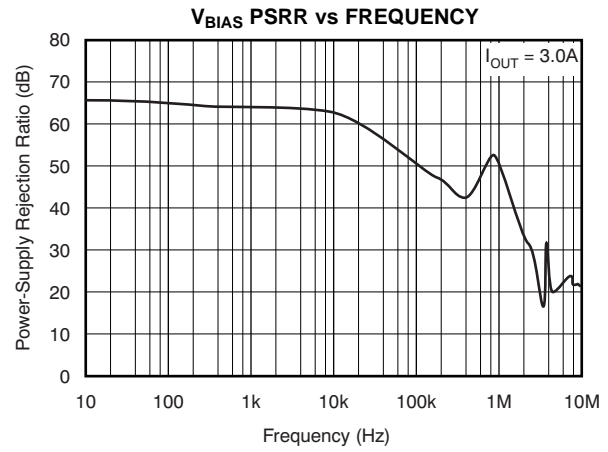
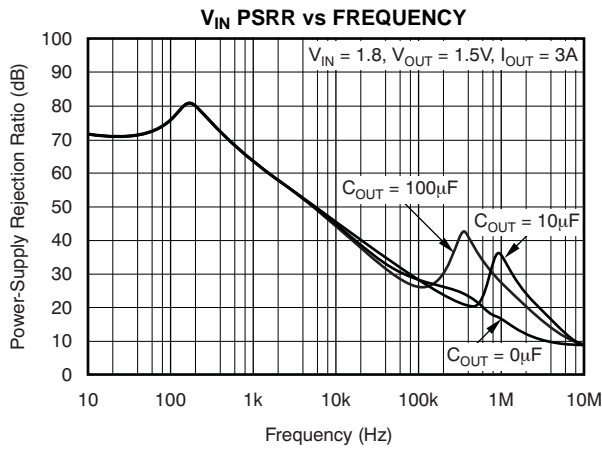

Figure 12.
Figure 15.
- (1) Adjustable devices tested at 0.8V; external resistor tolerance is not taken into account.
- (2) Dropout is defined as the voltage from the input to  $V_{OUT}$  when  $V_{OUT}$  is 2% below nominal.
- (3)  $I_{FB}$ ,  $I_{SNS}$  current flow is out of the device.
- (4) See Figure 12 to Figure 15 for PSRR at different conditions.